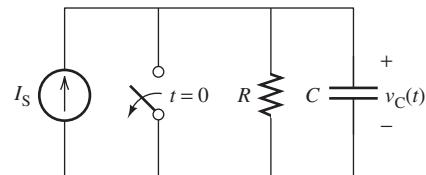

FIGURE P5.10 Circuit for Problem 5.10.
- 5.10** (A) Find an expression for $v_C(t)$ in Figure P5.10. The switch is opened at $t = 0$.